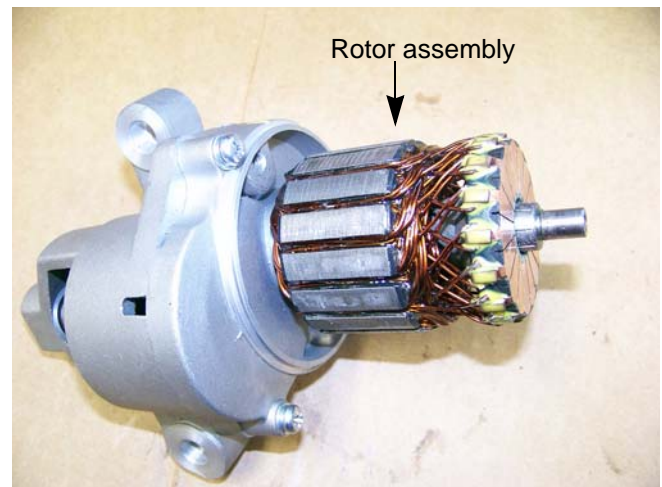

Figure 6.25
8. Insert the splined end of the rotor into the starter gear housing. See Figure 6.25.